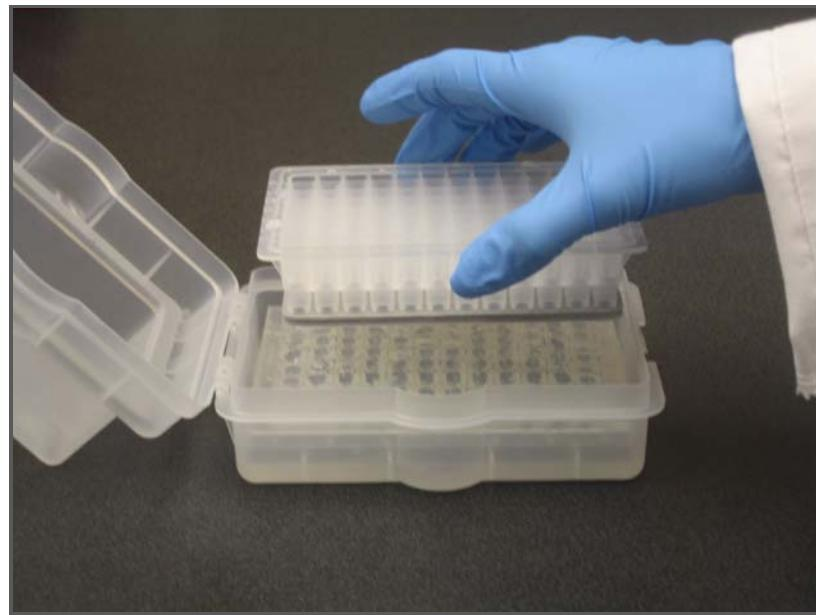

Figure 108 Remove Funnel Plate and Gasket from Deep Reservoir
13. Lifting straight up, remove the funnel plate and the attached gasket (Figure 108).